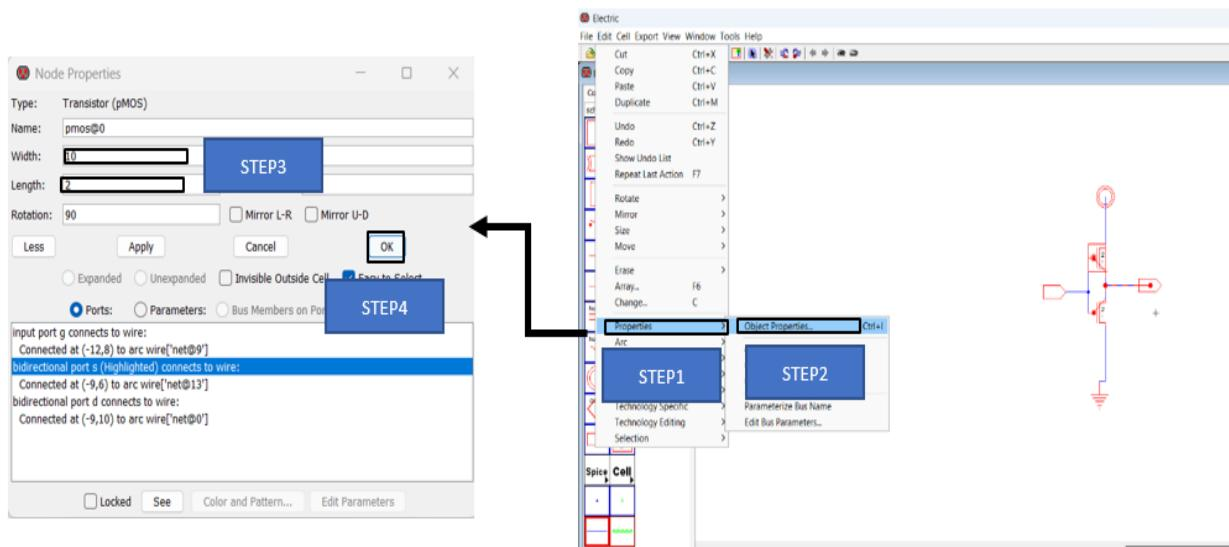

Figure 1.12: Adjusting the size of the transistors.
10. Adjust the width and length of the transistors by clicking on the component (e.g., PMOS), then selecting Edit >> Properties >> Object Properties. Change the width to 10 and the length to 2 for both NMOS and PMOS transistors. Repeat this step for both transistors (see Figure 1.12).